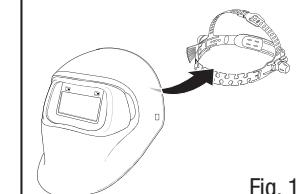

Fig. 1
- Follow Figs. 1-4, to properly remove and replace the 3M™ Speedglas™ Headgear 100 with the 3M™ Speedglas™ Hardhat Adapter 100 (part number 07-0014-00NR) as shown in Figs. 1 and 2.